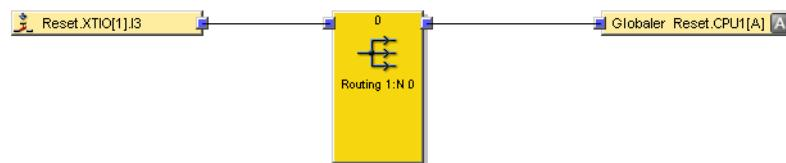

Figure 355: Routing an input to the Flexi Link system
- ▶ To make the value of an input directly available to all the stations within a Flexi Link system, use a **Routing 1:n** or **Routing n:n** function block (see figure 355, page 470).